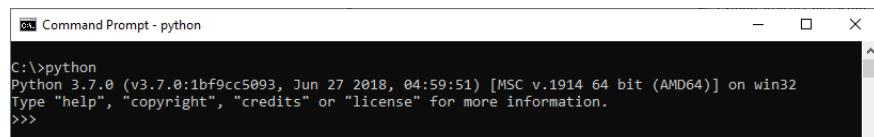

Figure 21 Python installation verification on command prompt window
- b On the root directory, type *python* and press <Enter>. See Figure 21.
6 On the command prompt window shown in Figure 21, you may optionally enter the following commands to install the 'NumPy', 'SciPy' and 'Matplotlib' libraries: